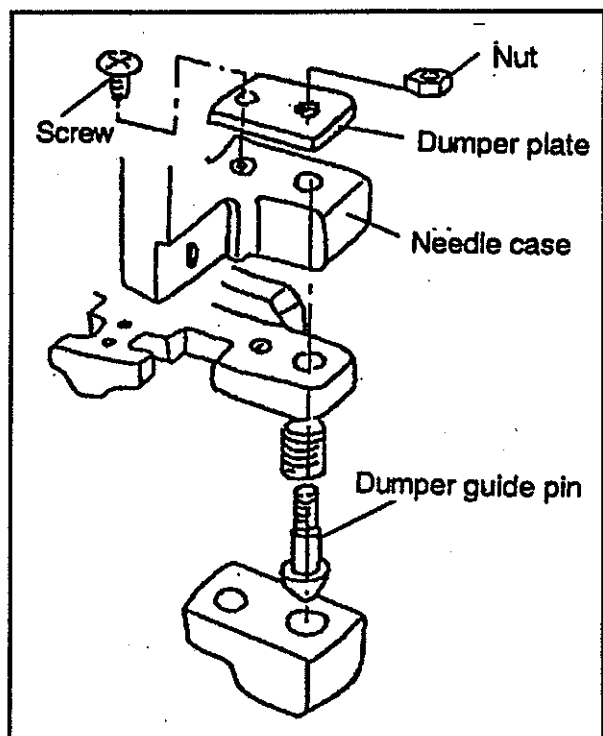

FIG.7
- (2) If the needle bar vibrates up and down, adjust the height of chuck plate by loosening the nut with the M8 spanner and rotate the dumper guide pin to the left or right until stop the vibration. After making the adjustment, tighten the nut(Fig.7).